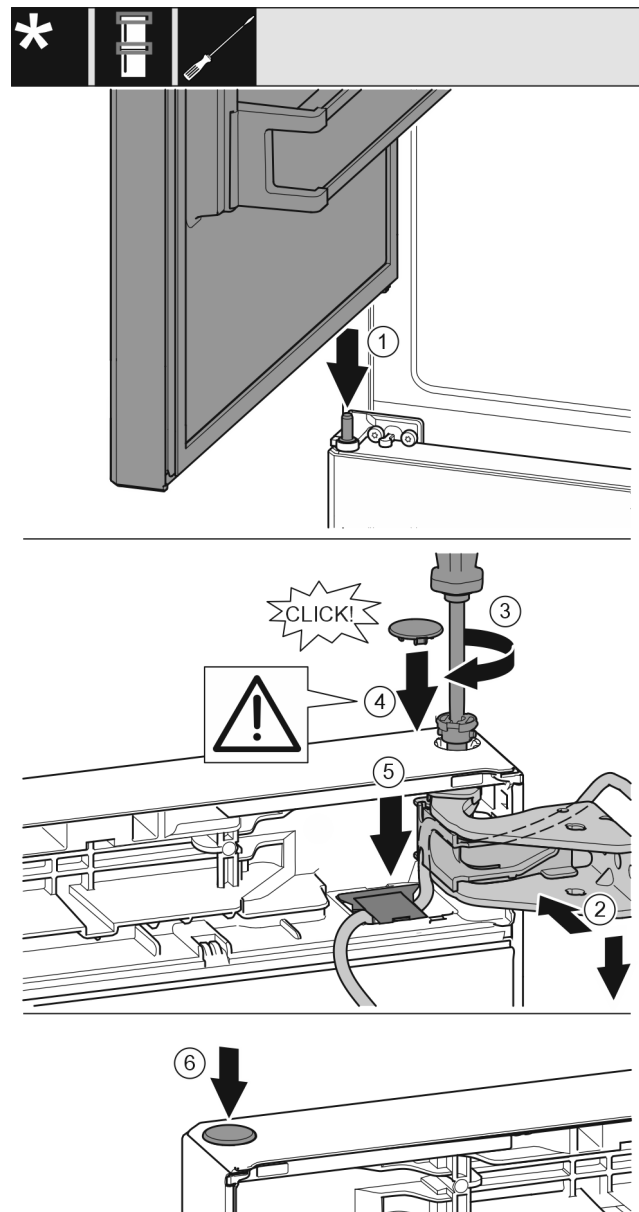

Fig. 40
- ▶ Position to top door onto the center bearing pin Fig. 40 (1).
- ▶ Align the top of the door with opening in the bearing bracket. Fig. 40 (2)
- ▶ Insert the pin Fig. 40 (3) and tighten it with the screwdriver.
- ▶ Mount the safety cover Fig. 40 (4) to protect the door: Insert the safety cover and check whether it is positioned on the door. If so, insert the pin completely.
- ▶ Insert the cover *Fig. 40 (5)* and press it down until it snaps down.
- ▶ Insert the plug *Fig. 40 (6)*.